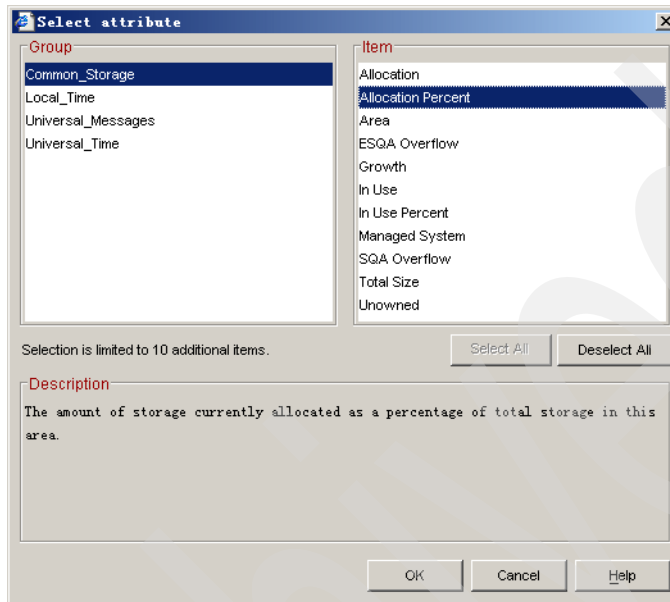

Figure 6-22 Create situation to monitor common storage - selecting attribute
3. The new situation requires an attribute. In the Select Attribute dialog, select the **Common Storage** attribute group and the **Allocation Percent** attribute as shown in Figure 6-22. Click **OK**.